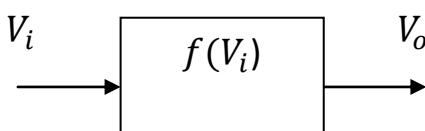

Figure 1: Input-output characteristic of an amplifier.
If an sinusoidal input signal is applied to an amplifier and the input-output characteristic is given as  $V_o = f(V_i)$  from Figure 1,
From Figure 1, the equation (2) can be given with using Taylor series.